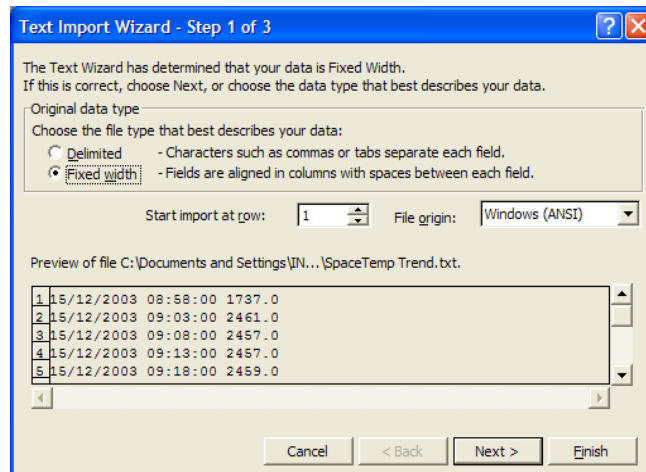

Figure 202: Text Import Wizard
5. Follow the Microsoft Excel prompts and click Finish once finished (Figure 202).